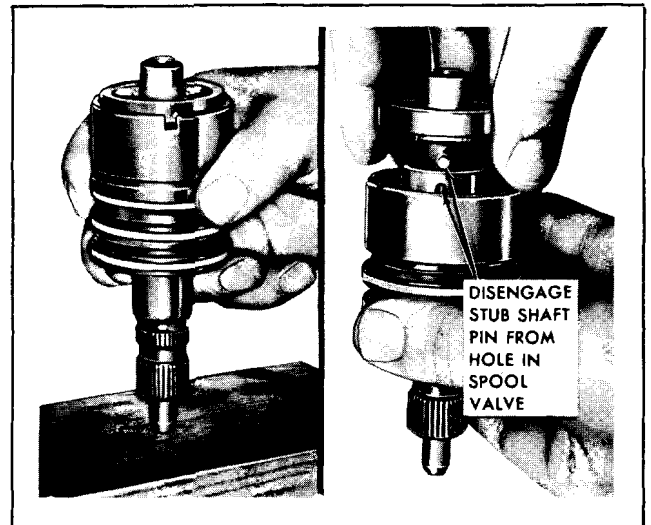

Fig. 9-92 Removing Stub Shaft Assembly
- a. While holding the assembly (lower shaft down), lightly tap the stub shaft against the bench until the shaft cap is free from the valve body (Fig. 9-92).
- c. Carefully disengage the shaft pin from the valve spool and remove the shaft assembly (Fig. 9-92).